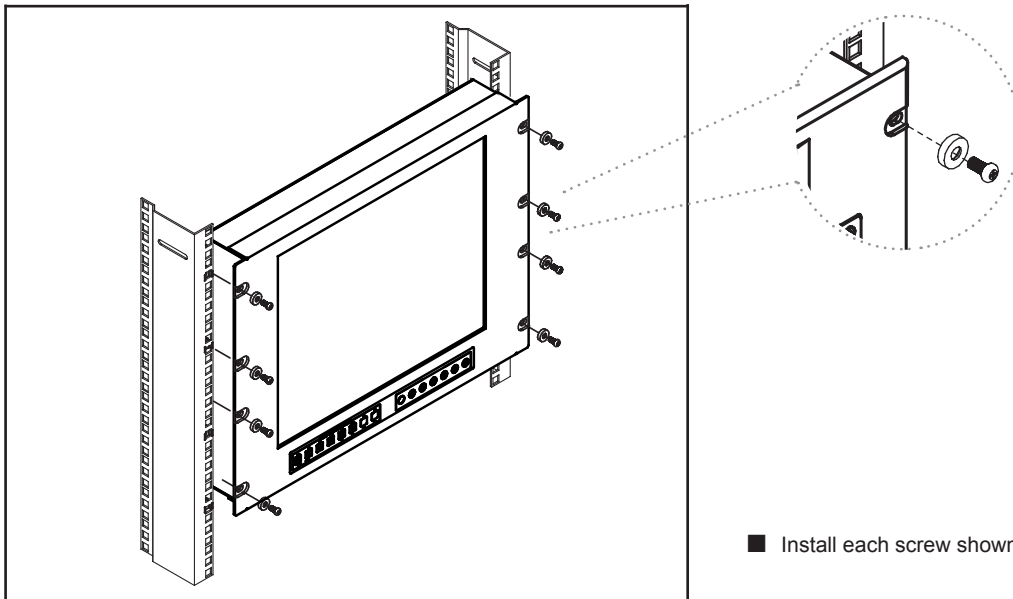

Figure 10.
■ Install each screw shown in **Figure 10**.